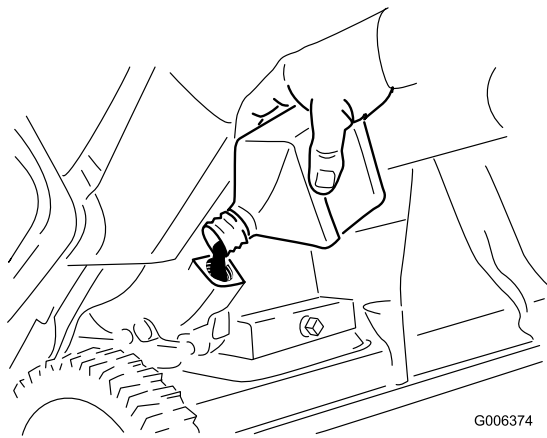

Figure 32
8. With the machine in the operating position, **carefully** pour oil into the oil fill hole. Wait three minutes, then add oil to the point of overflow (Figure 32).